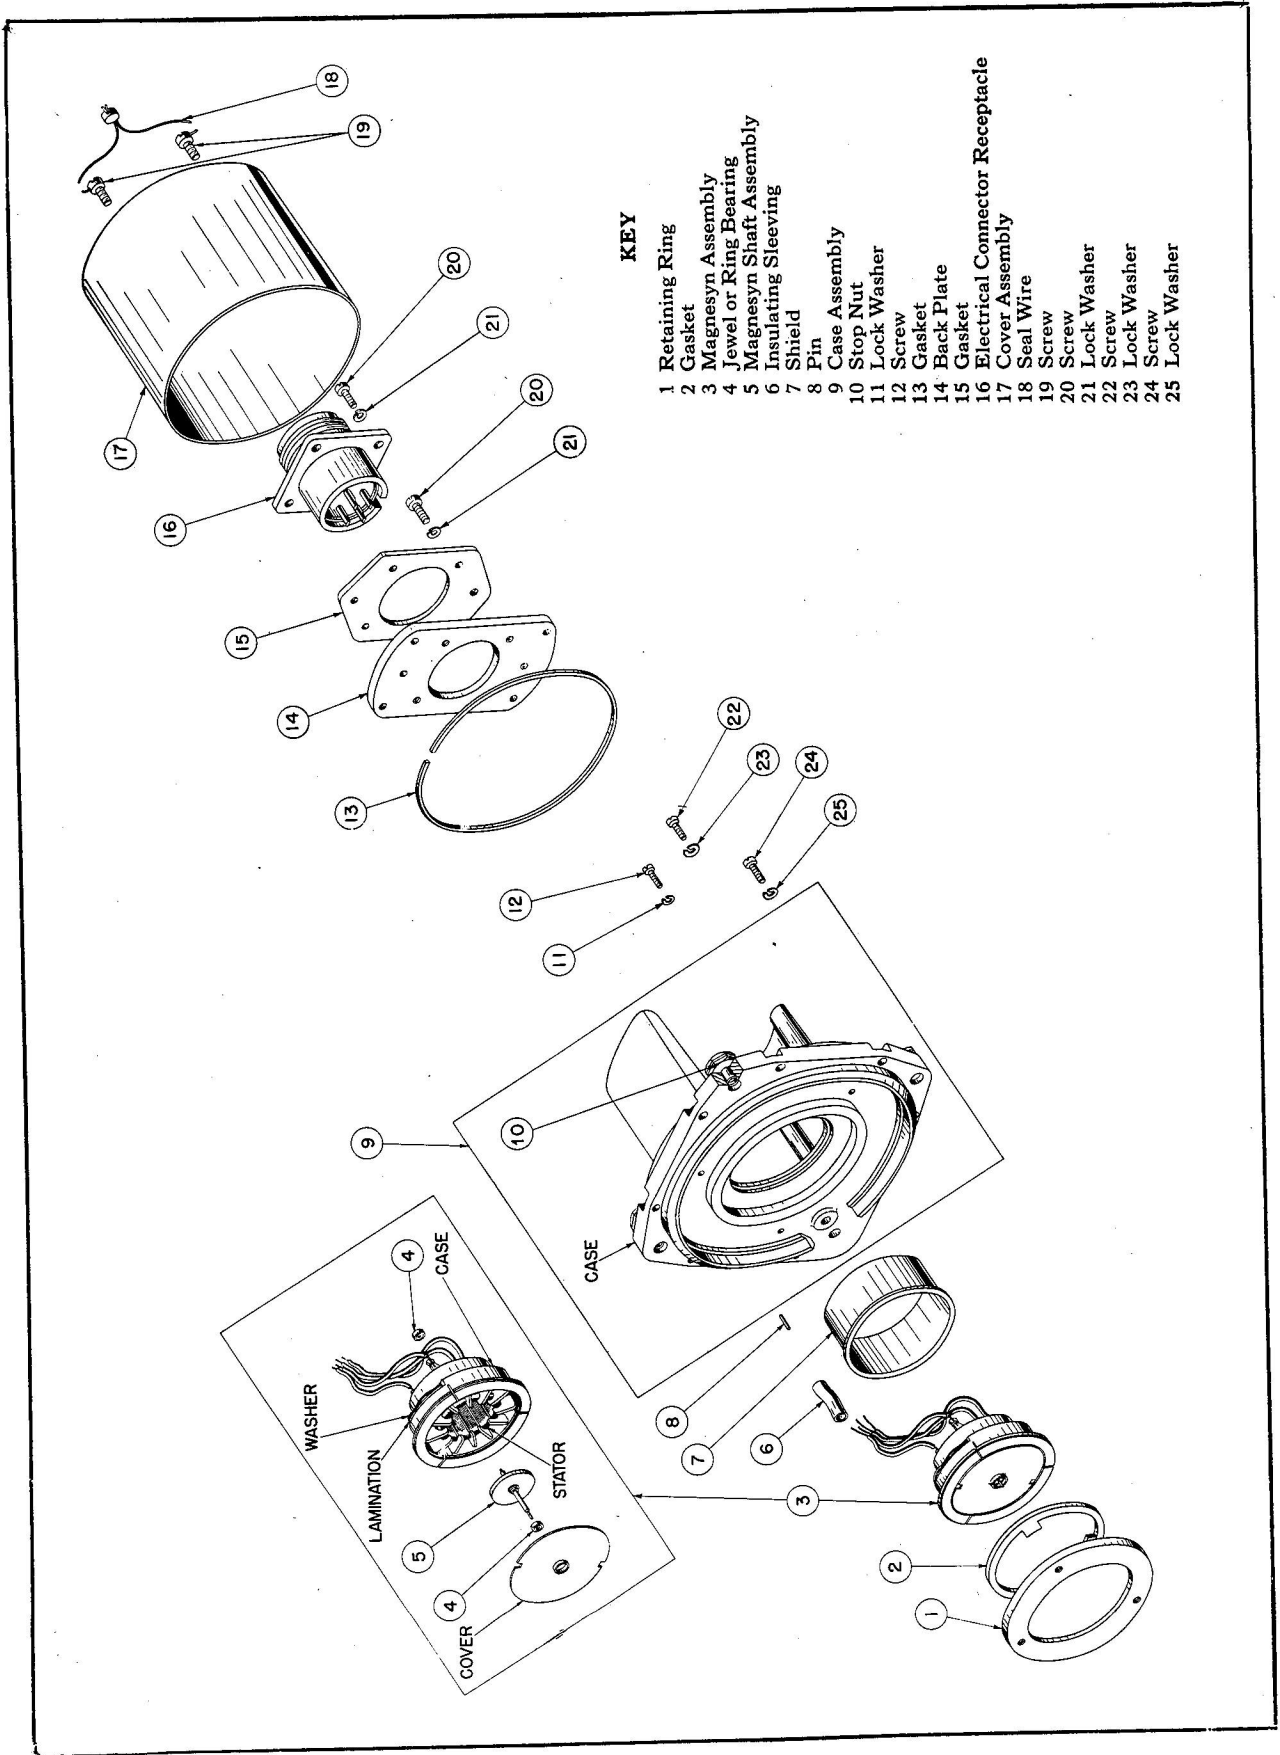

Figure 23—Exploded View Drawing—Main Assembly—Types AN 5730-2 and AN 5730-6 (Pioneer Types 10061--A1)
(1) REMOVAL OF ELECTRICAL CONNECTOR RECEPTACLE. (See figure 23.)
(a) Place the indicator face down and remove the six screws (24, figure 23), two screws (12, figure 23), six lock washers (25, figure 23), and two lock washers (11, figure 23) from the back of the mounting flange of the case. Remove the bezel assembly. Extract the gasket (6, figure 22) and glass (5) from the bezel (4). The adjusting shaft and knob assembly will come off with the bezel.
(g) Remove the three screws (22, figure 23) and lock washers (23, figure 23) that secure the retaining ring (1, figure 23) to the case assembly (9), and remove the retaining ring. Remove gasket (2, figure 23).
Early models of the indicator do not have the gasket (2, figure 23). This gasket was added to reduce distortion of the Magnesyn case caused by variation in the frame, shield, and case. This gasket cannot be used with the old retaining ring, PB-23626. On reassembly, use new type retaining ring, PB-51237-1, and gasket.
(h) Extract the Magnesyn assembly and shield (7, figure 23) from the case assembly (9, figure 22) and remove the Magnesyn assembly from the shield.
(3) DISASSEMBLY OF MAGNESYN ASSEMBLY. (See figure 23.)
**c. CLEANING, INSPECTION, TESTING, AND REPAIR.** (See figure 23.)
(1) Examine the pin (8) pressed into the case. Replace it with a new one if necessary. If a stop nut (10) requires replacement, carefully punch the old stop nut out of the case. Replace the new stop nut, using the stop nut swagging punch, PQ-15852-1. Slide the insert piece, PQ-15922-1, in the slot of the stop nut to avoid damaging the new nut.
(2) Inspect the cover glass to be sure that it is clean and free from cracks. Check the gaskets to ascertain that they are in good condition. Replace them with new ones if necessary.
(4) Clean the pivot jewels (4, figure 23) with a pointed orange stick. Inspect the jewels for cracks and flaws with a sharp-pointed needle or a 15 to 30X magnifying glass. A cracked or otherwise damaged jewel must be replaced. If replacement is necessary, selection of jewels to fit the Magnesyn shaft assembly will be made at reassembly.
(5) Demagnetize the Magnesyn shaft assembly (5) with a suitable demagnetizer. Check the balance of the rotor in the rotor balance stand, 13308-1. If the rotor is out of balance, file some material from the heavy edge of the hub. Clean the pivots with pithwood. Bent, scored, or worn pivots will necessitate replacement of the Magnesyn shaft assembly.
(6) The magnet of the Magnesyn shaft assembly must be remagnetized before reassembly. Place the Magnesyn shaft assembly in a two-pole magnetizer and magnetize it to full strength. Place the Magnesyn shaft assembly in the magnet keeper, PQ-11735-1, until it is replaced within the stator assembly.
(7) Using a standard ohmmeter, test the stator assembly for resistance and continuity of the windings. The resistance of each phase must be within two ohms of the resistance of each of the other two phases. If the stator assembly fails to meet the above conditions, replace the complete Magnesyn assembly.
(8) Replace the gasket (13) with a new one.
(9) Inspect and check the hand assembly for balance. If unbalanced, remove material from, or add material to, the counterweight.
(10) Flush out the sieve assembly in the cover. Blow filtered benzene, Specification No. AN-4-1016B, through the sieve assembly with a blast of dry, clean air, from a direction opposite the entrance of foreign
**(1) REASSEMBLY OF MAGNESYN ASSEMBLY.** (See figure 23.)
(See figure 23.)
(a) Place the indicator face up in a suitable support stand. Apply a light film of Andok M-350 grease in the counterbore in the case provided for the gear and pin assembly (12). Replace the gear and pin assembly into the case assembly (9, figure 23).
(c) Replace the friction washer (9) and the course setting pointer, dial, and gear into the case. Make certain that the notches in the dial and the friction washer fit around the pin (8, figure 23) which is pressed into the case assembly (9, figure 23). Press the spacing ring (7, figure 22) in position over the dial, securing the dial and the friction washer in place.
(d) If the "C" and "D" terminals of the electrical connector receptacle (16, figure 23) are connected to the positive post of a 3-volt battery and the "A" and "B" terminals to the negative post, the magnet of the Magnesyn shaft assembly (5, figure 23) will assume an electrical zero position. Care must be taken that connections are correct before applying the d-c power, which must not be applied continuously for periods longer than one minute. "Electrical zero" is the term applied to a definite arbitrary reference position which the rotor will assume within the stator when this excitation is made. With the Magnesyn shaft assembly held in this position, carefully press the hand assembly (16, figure 22) on the tapered end of the shaft so that it indicates "N" (0 degrees). The accuracy of the indicator will depend on the precision with which the pointer is set *exactly* on top dead center ("N"). There must be no relative motion between the hand assembly and the shaft. If a new hand assembly is used, it must be reamed for a 3-degree taper fit, using taper reamer. PQ-2800.
(d) Place the indicator face down over the bezel assembly and mesh the adjusting shaft (11) to which the knob is attached with the gear and pin assembly (12). Secure the bezel assembly in place with the two screws (12, figure 23), six screws (24, figure 23), two lock washers (11, figure 23), and six lock washers (25, figure 23). It will be noticed that the two screws (12, figure 23) are smaller than the six. These two screws and their corresponding lock washers (11, figure 23) go on either side of the adjusting knob (1, figure 22).
(e) Pass the seal wire (18, figure 23) through the two screws (19, figure 23) that hold the cover assembly in place and impress the seal.